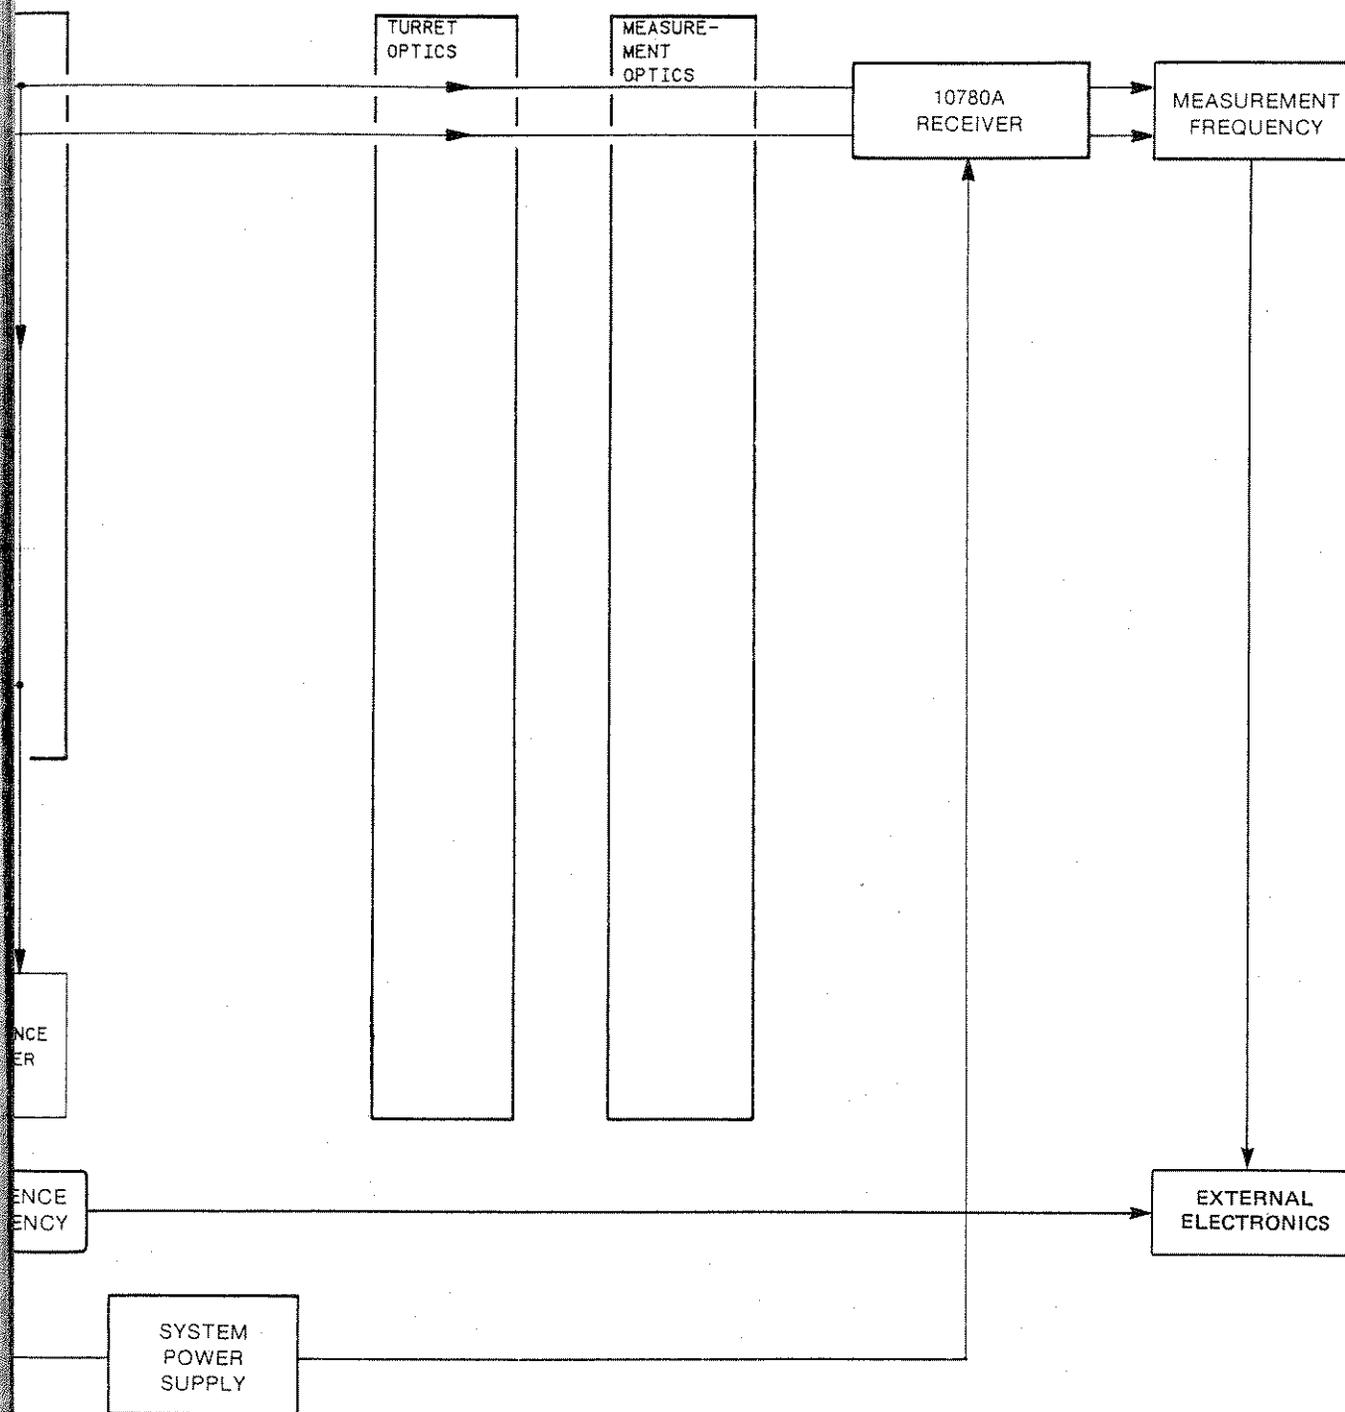

Figure 8-2. HP 5501B Laser Head Block Diagram
- Block Diagram Description. These paragraphs describe the laser head's major functional blocks and modes of operation. The description references the HP 5501B Laser Head Block Diagram, *Figure 8-2*.
8-19. The major structures of the HP 5501B are shown on the HP 5501B Laser Head Block Diagram in *Figure 8-2* and include the control electronics, laser assembly, sampler assembly, reference receiver, and the high voltage power supply. All of the necessary control signals for the operation of the HP 5501B are generated internally. Power requirements are ± 15 Volts DC from external system power supplies.